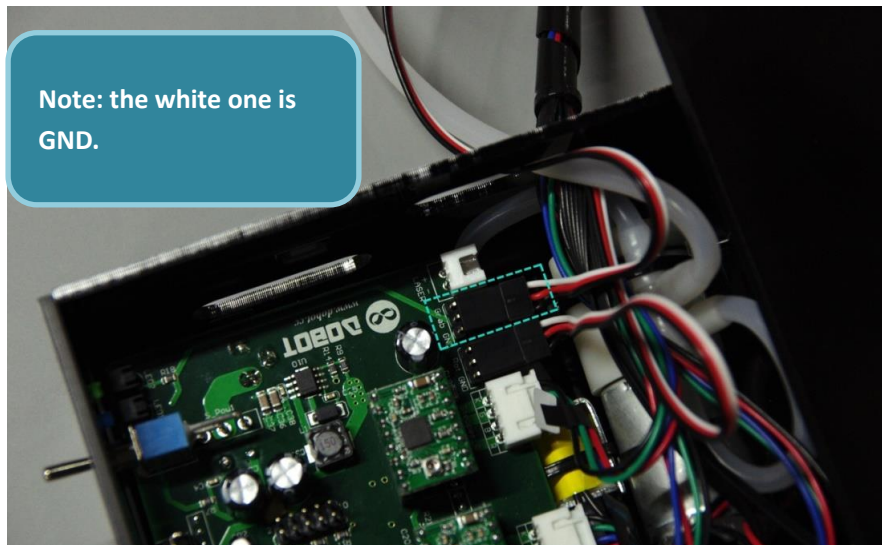

Figure 2.8 Servo extension cable connection to the board
4. As shown in Figure 2.8, connect the female end of the **Servo Extension Cable** to the pins shown in dashed rectangle on the circuit board. Note the word '**Grab**' printed on the board.